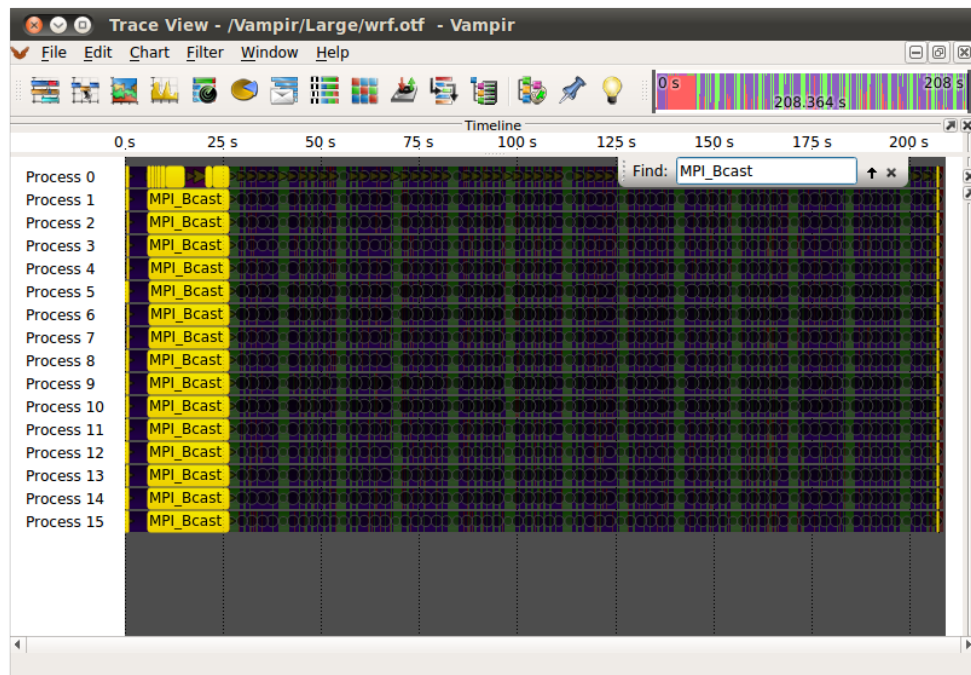

Figure 4.4: Search for MPI\_Bcast in the Master Timeline
**Search Functionality** Both timeline charts also provides the possibility to search for function and function group occurrences. In order to activate the search mode use the context menu and select *Find...* After activation an input field appears at the top of the respective chart. A search string can be written in this field and all corresponding function and function group occurrences are highlighted in yellow. An example search for the function `MPI_Bcast` is depicted in Figure 4.4.